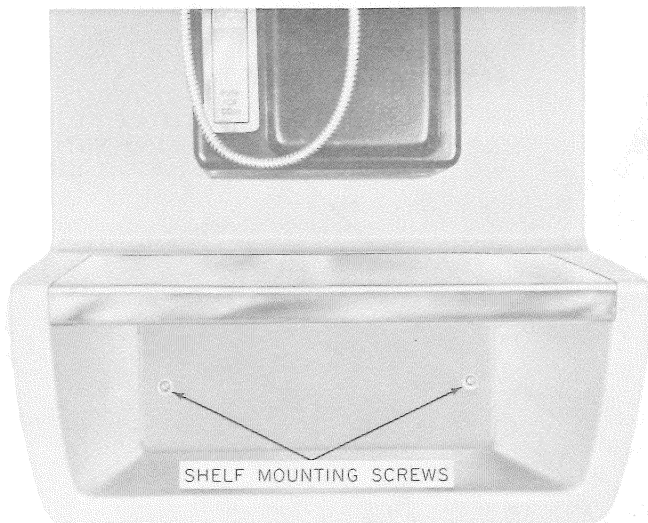

Fig. 4—Directory Compartment of KS-19945 Coin Telephone Shelf
3.03 The rear of the directory compartment has two mounting holes (Fig. 4). Mark wall for anchors or fasten shelf to wall with appropriate screws per Table B. Remove the two screws installed in 3.02.